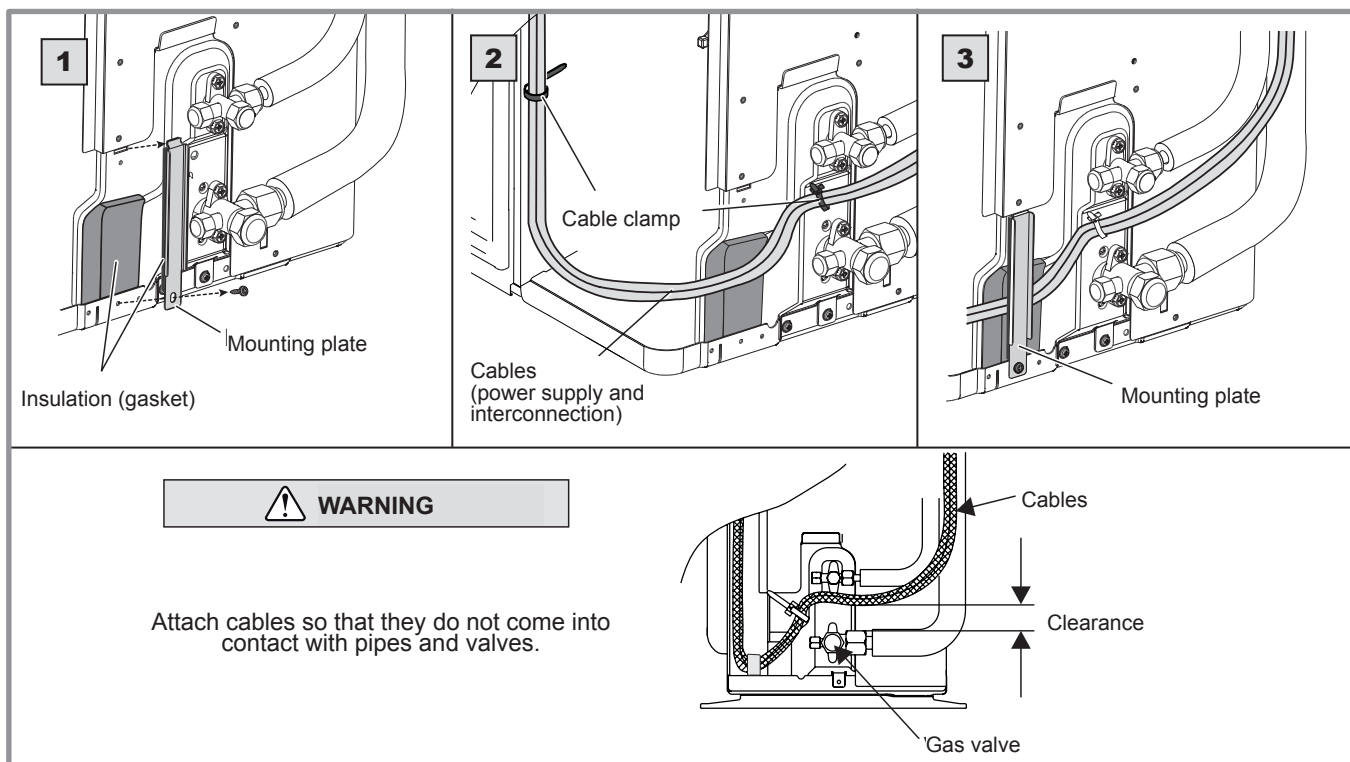

figure 36 - Finalising connection of single phase outdoor unit
- Use the fixing plate to keep the cables tight against the insulating plate (figure 36).